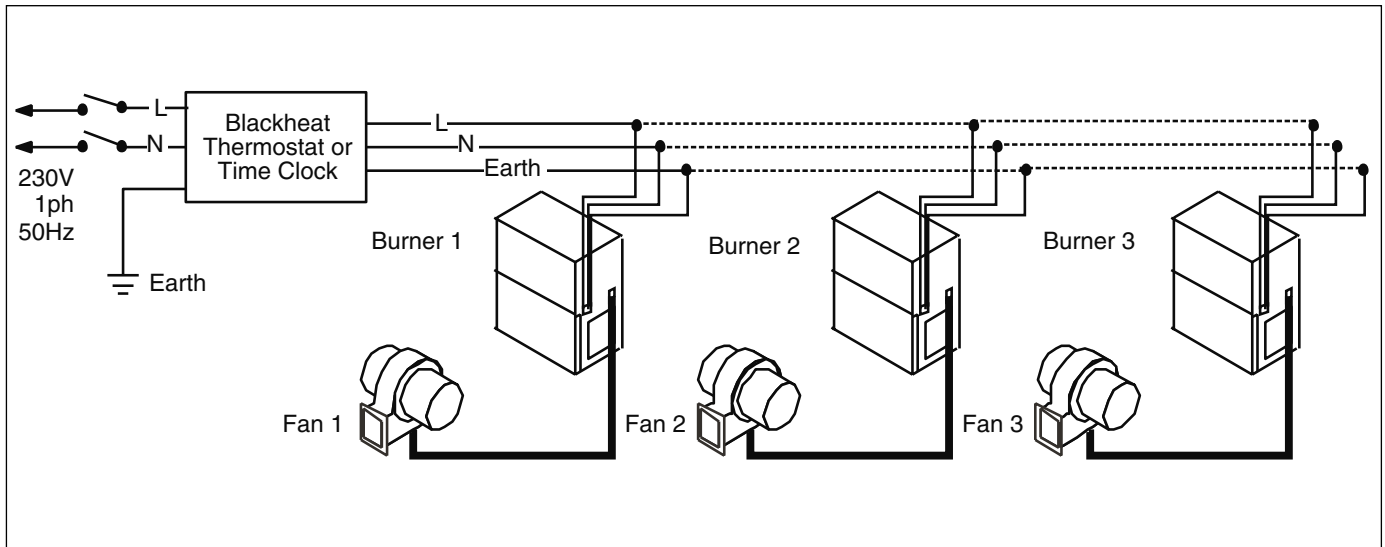

Figure 15. Typical External Wiring Diagram (Single-burner Systems)
- 6.2.1 Connect to the electrical supply using a 3 pin plug via a locally mounted double pole fused switch having a minimum disconnection of 3 mm on each pole. This switch should be fused to 3 amps. The burner is fused at 2 amps. There are no control connections in the standard burner. Control is affected by interruption of the main power inlet. See Figures 15 and 16 for the external wiring details for the single-burner and double linear heater systems.